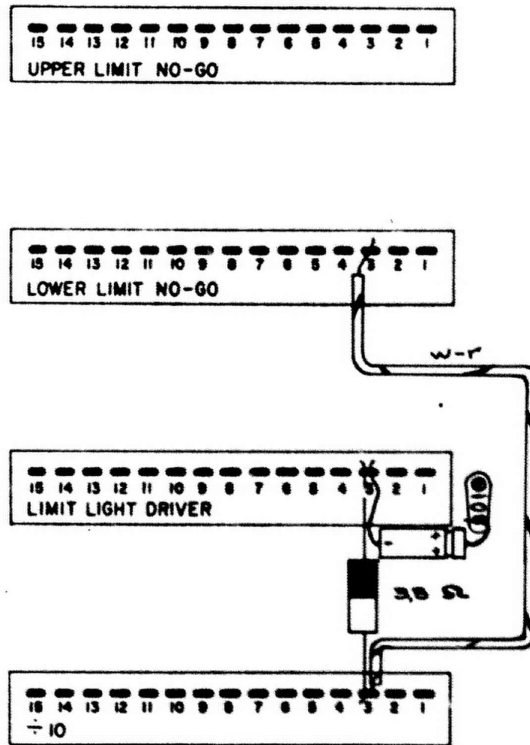

Fig. 2
- 3. Connect the following wires and components (from kit) as indicated in Fig. 2: